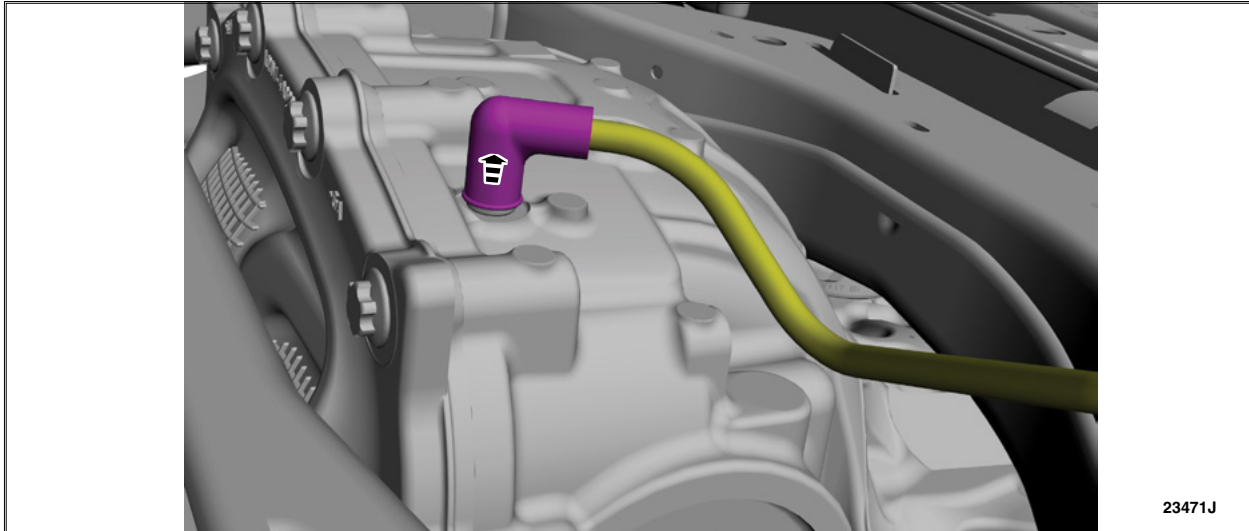

FIGURE 11
18. Disconnect and position the axle assembly vent hose aside. See Figure 11.